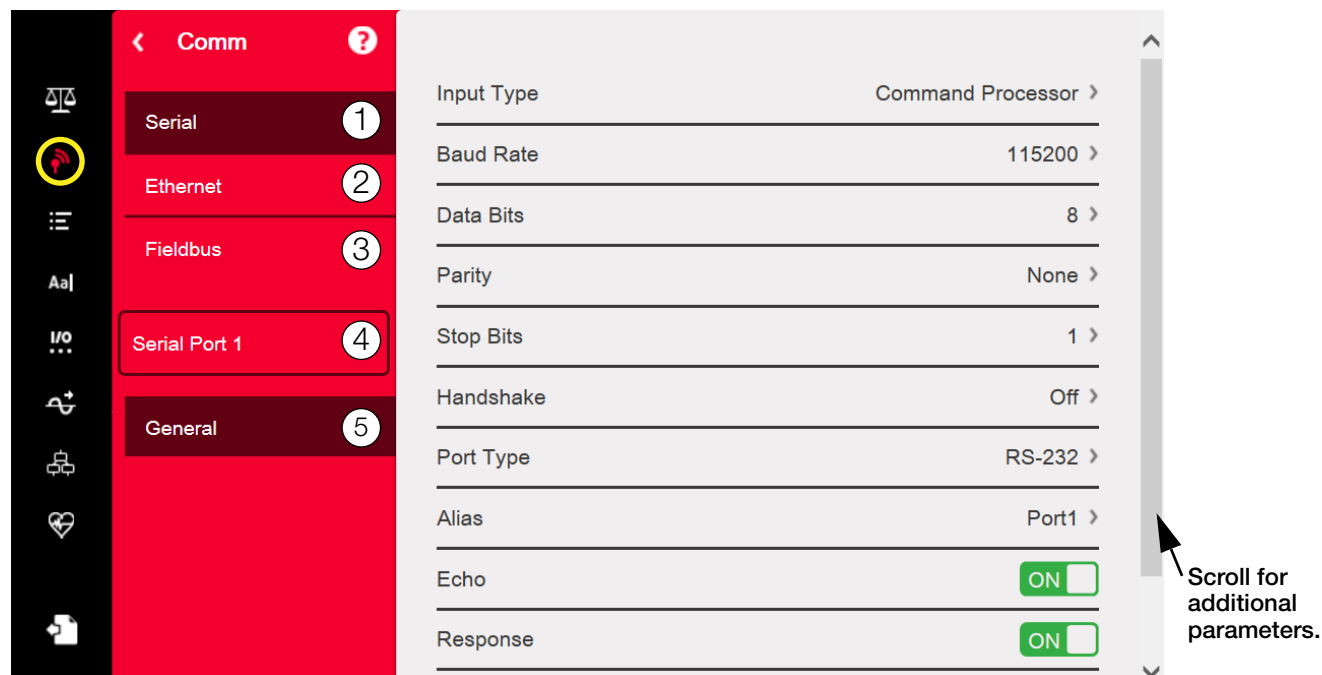

Figure 5-1. Communications Menu
From the Configuration menu, select the **Communications** icon  (circled in Figure 5-1) to enter the Communications menu. Once all parameters have been set, press  to return to weigh mode.
Press the Selection Field arrow (number 4 in Figure 5-1) to expand available ports. Select the desired port.
1. Select the Selection Field arrow (number 4 in Figure 5-1) to expand the Ethernet selections.